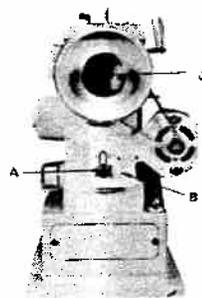

Fig. 46
- (1) To adjust "V" belt, loosen screws (A, Fig. 46,) and move bracket B up to loosen belt and down to tighten.